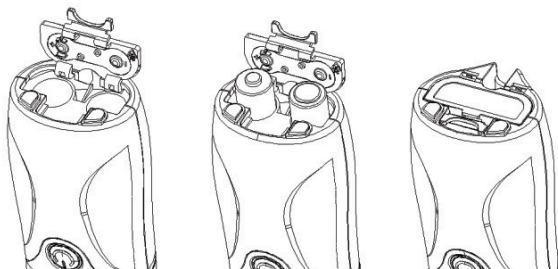

Fig.3
- a. To open the battery cover(6) on the underside of the device ,apply light pressure and pull the battery cover comer in the direction of the arrows, the fold the lid up
- c. Ensure that the poles of the batteries are touching their respective poles in the device (Fig 3)